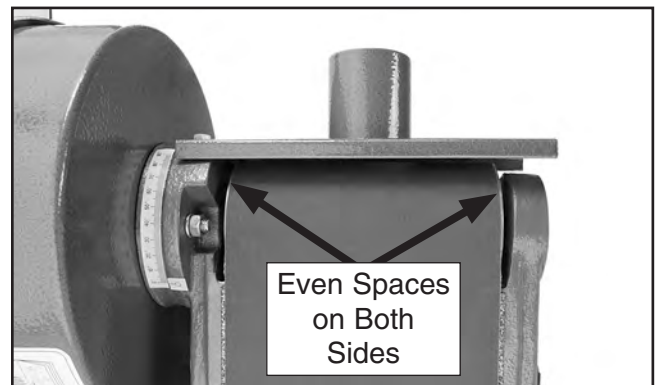

Figure 45. Example of sanding belt centered on main roller.
4. Adjust the tracking with the tracking control knob and continue to rotate the belt by hand until the sanding belt is centered on the main roller, as shown in **Figure 45**.
7. Loosen the lock nut on the tracking control knob, and carefully adjust the tracking in small increments toward the front or back of the sander frame until the sanding belt remains centered on the main roller (see **Figure 45, Page 27**).